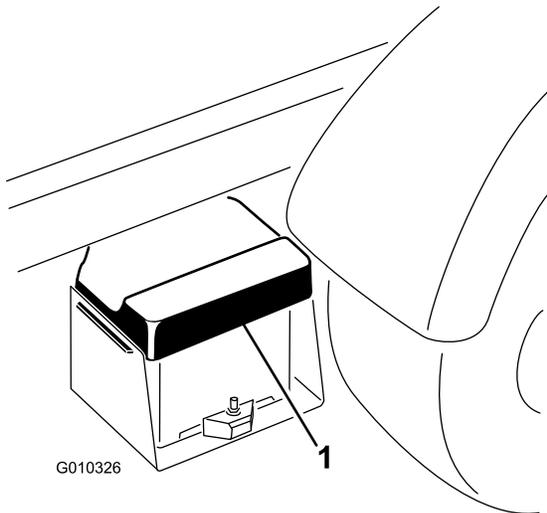

Figure 49
1. Squeeze the battery cover to release the tabs from the battery base, and remove the battery cover from the battery base (Figure 49).